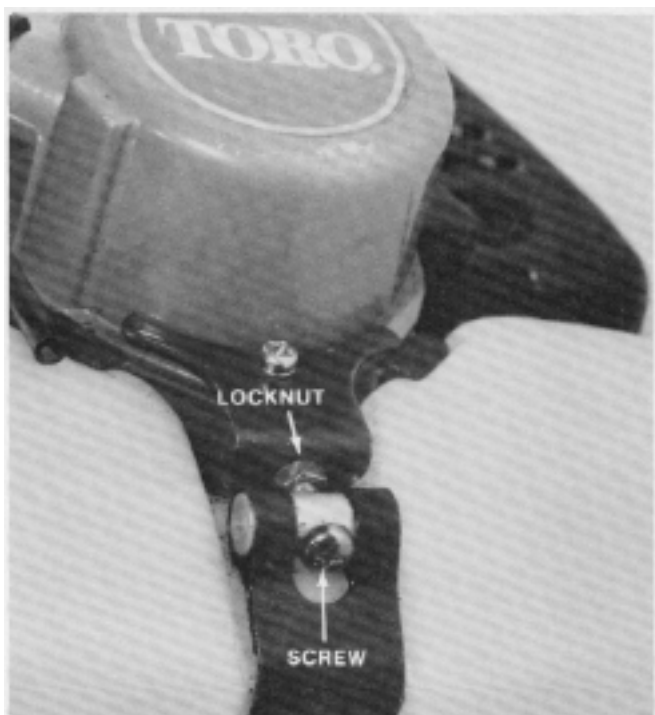

Figure 36
2. Loosen the locknut on the fuel tank strap screw then turn the screw counterclockwise until the strip is free from the bracket. See Figure 36.